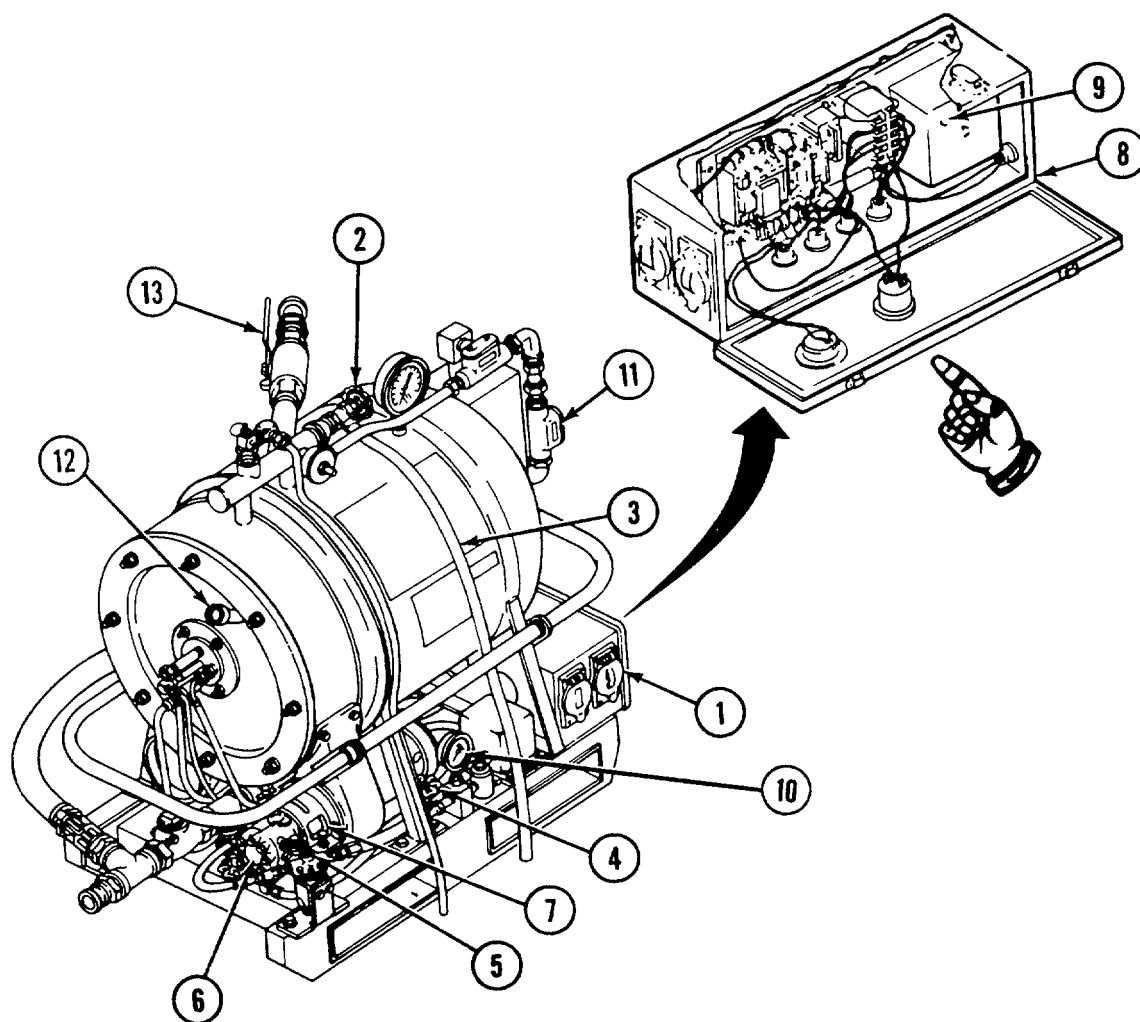

FIGURE 2-19. Water heater controls.
- (1) Ensure fuel shutoff valve (4, FIG. 2-19) is closed. Clockwise rotation closes valve.
- (2) Set switch (1) on the water heater to the ON position, then to the OFF position, and check for proper motor rotation. If motor does not rotate in direction of arrows, refer to similar water pump troubleshooting table 3-2, malfunction 1, step 2. If motor is rotating in correct direction, place switch in the ON position.
- (3) Open water outlet valve (13).
- (4) Open bleeder valve (2) until a steady stream of water flows from vent hose (3). Close the valve.